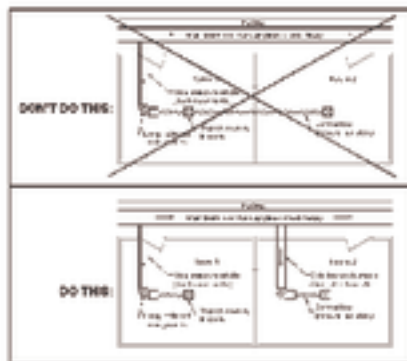

Figure 4.5: Mistaken to properly interconnected HVAC systems between studio rooms ("crazy-chaining" is strongly discouraged)
- If installing a new HVAC system and ductwork, make sure that you do not have ducts "crazy-chaining" between adjacent studio rooms that are fed by the same main trunk. Instead, add an additional trunk line and feed each other room as shown in Figure 4.5.